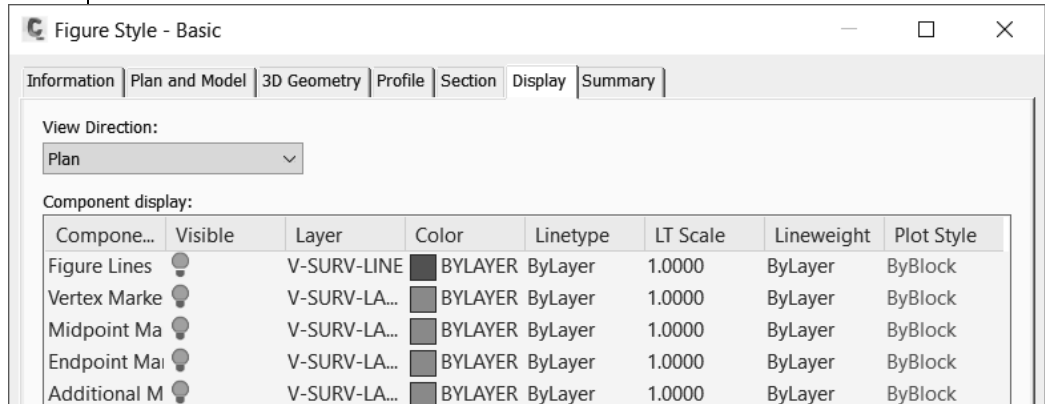

Figure 2–1
- The *Display* tab defines which figure’s components display and which layers they use for plan, model, profile, and section views, as shown in Figure 2–1.